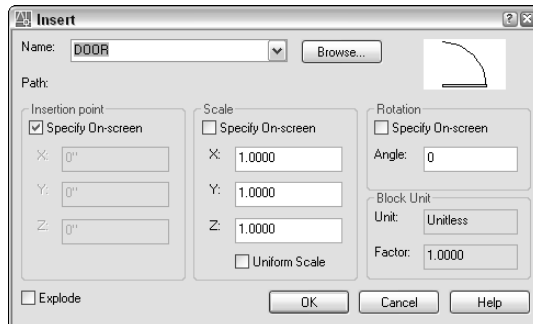

**Figure 18-8:** The Insert dialog box.
1.  Choose Insert Block from the Draw toolbar to start the INSERT command. The Insert dialog box opens, as shown in Figure 18-8.